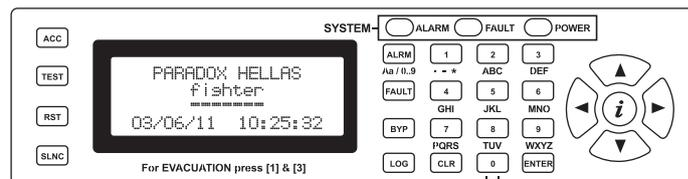

Figure 12. Fighter keypad
Each keypad (Figure 12) has several buttons with some having different functions depending on the system's state. The following table summarizes each key's functionality:
- **T9 entry mode:** Each key has a set of characters (4 or 5) that are selected by promptly pressing the same key as many times needed. The characters allocated to each key are printed above them on the keypad mask (Figure 12). This mode is very popular with cellular phones and used for SMS text messaging.